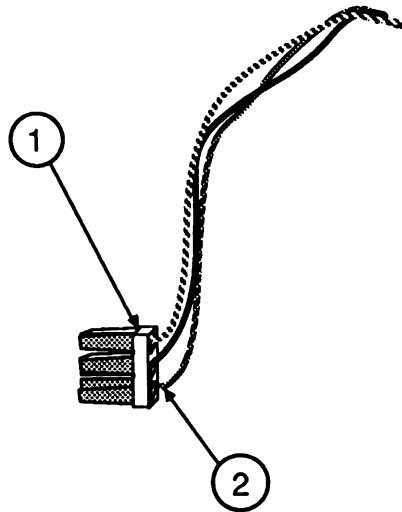

FIGURE 5
13. Locate the three-wire AC IN connector (Figure 5, #1) that you removed from the line filter board.
14. Using small wire cutters, clip off the green AC IN ground wire close to the connector (Figure 5, #2).